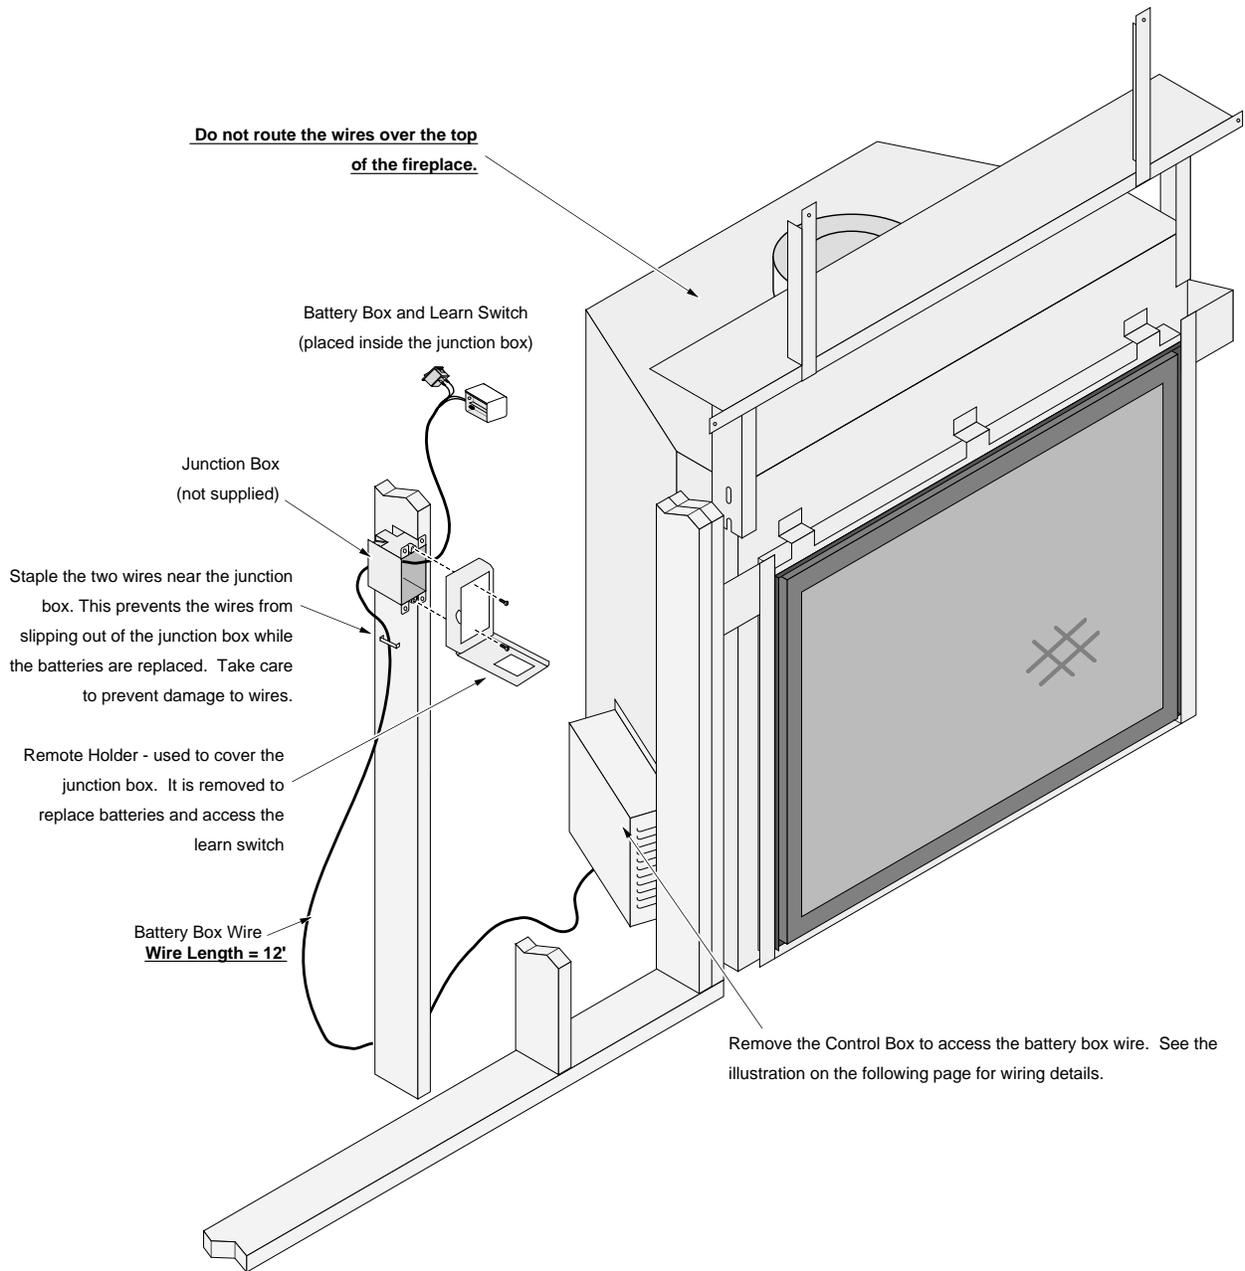
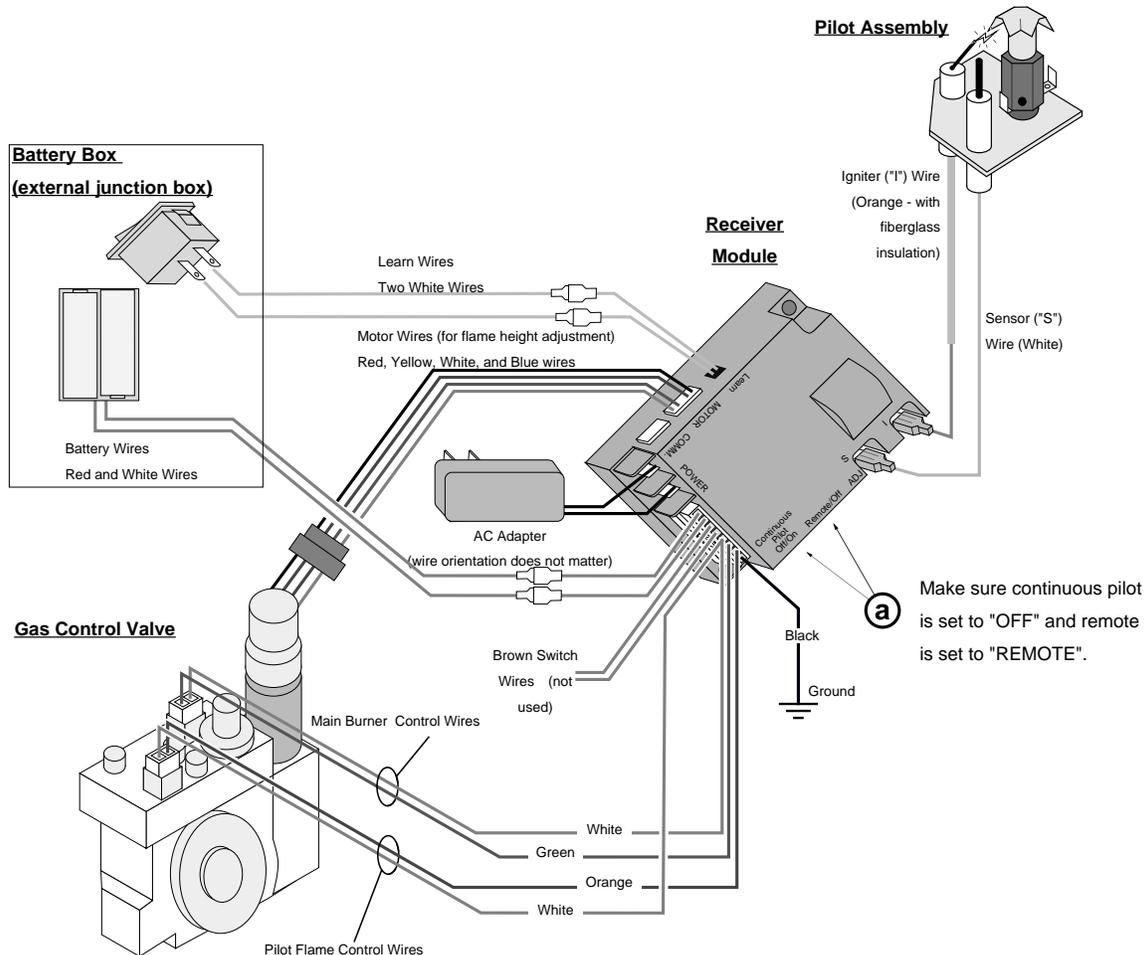

Figure 11
Figure 12
- The battery pack and learn switch must be mounted inside a junction box in a location that may be reached by the 12' long battery box wires (see Figure 11).
1. Remove the control cover and attach the 12' long battery box wire to the quick connects on the receiver module (see Figure 12 below). Route the battery box wire through the opening below the cover. At this time make sure the continuous pilot switch is set to "OFF" and the remote switch is set to "REMOTE" on the receiver module – item "a". You may also wish to verify all the wire leads are fully attached.
3. Insert the battery box wires through the junction box, leaving approximately 8" of slack so the battery pack may be removed and the batteries replaced. Use a staple or other means to secure the wiring to the framing – this prevents the wires from slipping out of the junction box in the event the wires become disconnected from the battery pack (see Figure 11). NOTE: The wiring is low-voltage (6V) and does not require a strain relief. Connect the learn switch and battery pack wires (see Figure 12).